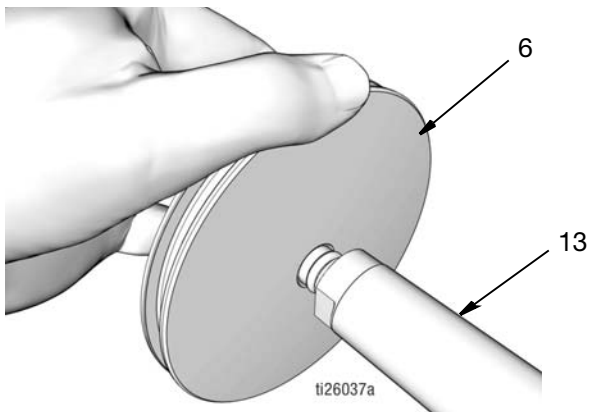

FIG. 47
- c. Push piston (6) over end of piston rod (13) until it is seated on the rod (FIG. 47).